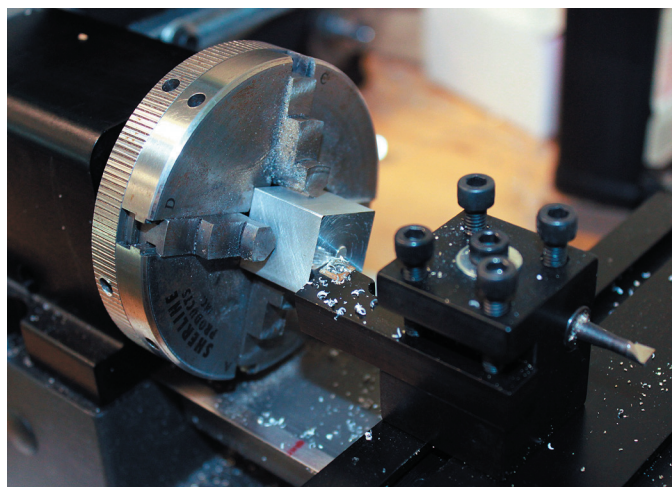

Figure 1—Facing the first saw-cut surface.
**Note:** these instructions are written with the assumption that you have already machined your part into a  $\frac{3}{4}$ " square. If you don't have a Sherline Mill to do this operation on, you can hold the stock in your 4-jaw chuck and face opposite sides until your part measures  $\frac{3}{4}$ ". Since you have  $\frac{3}{4}$ " square stock, you will only need to machine the saw cut ends of the stock to size. Use the jaws to hold the part by the extruded surfaces. Push the stock into the chuck "lightly" so the jaws can hold the part square. Turn the spindle on to check for excessive runout. Face the first end just enough to clean up the surface. (See Figure 1.) Now the faced end of the stock and the extruded sides of the material should be perpendicular. Now flip the part around and push the finished face of the stock into the face of the chuck with more pressure. This will locate the stock against the chuck and now you can face the other side to the  $\frac{3}{4}$ " finish dimension.